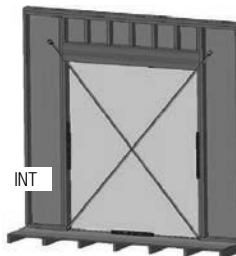

FIG. 1
- B) Verify the rough opening is flat, plumb, level and square. (Fig. 1)
- C) Take diagonal measurements to check for square. (Fig. 1)
- D) Make sure the bottom sill area of the rough opening is flat and level. Correct rough opening if sloped toward the interior, out of level or humped. (Fig. 1)